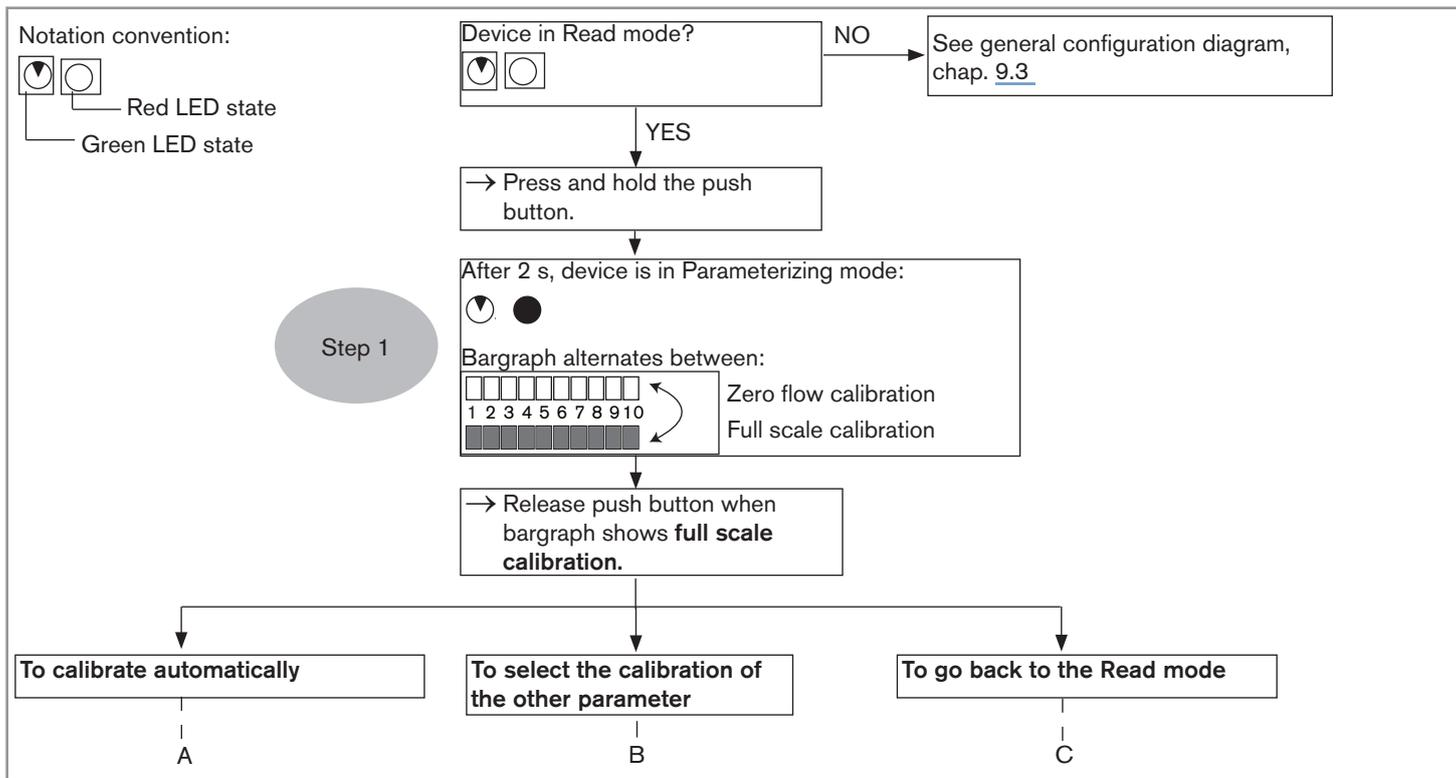
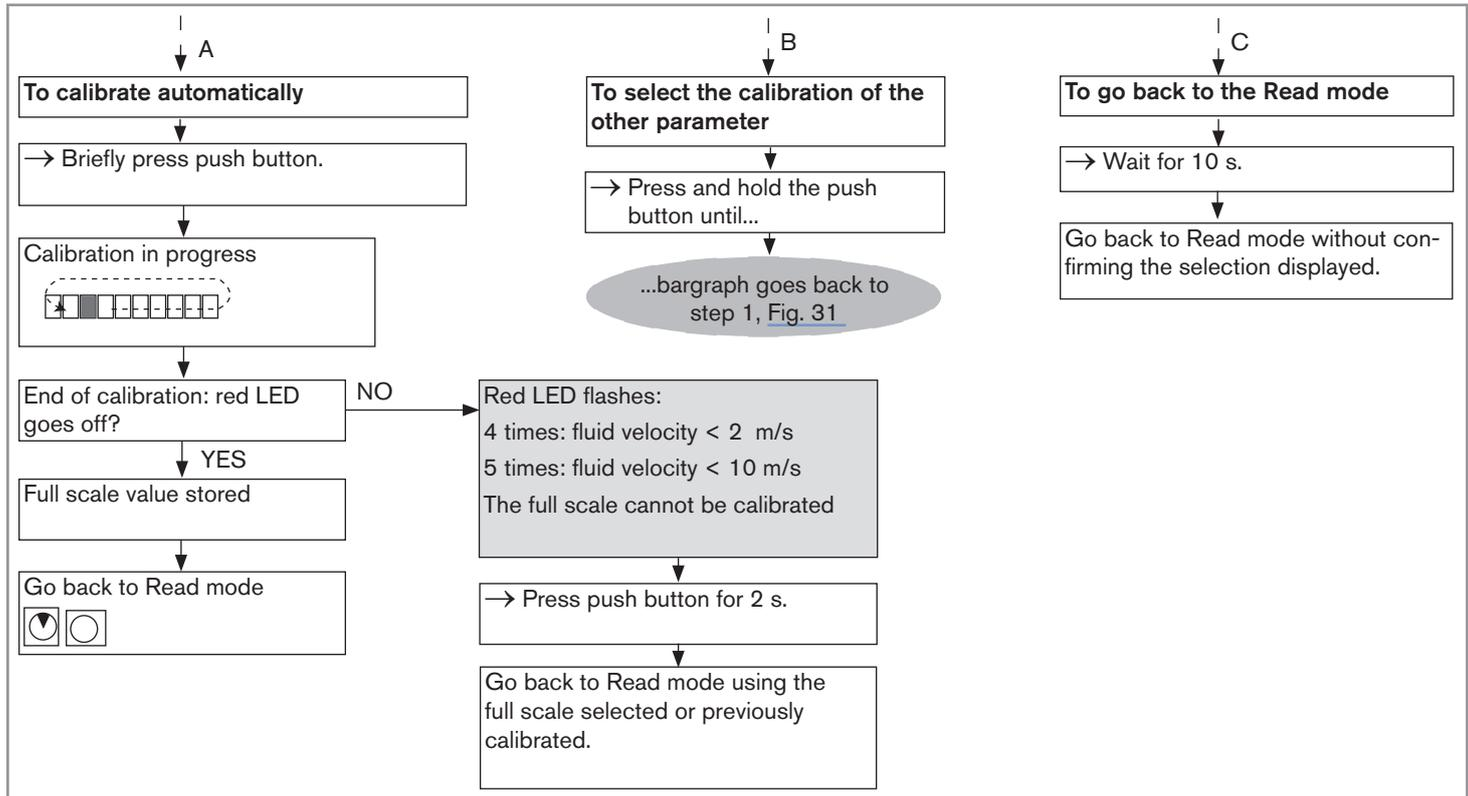

Fig. 31 : Calibration of the full scale, part 1
Fig. 32 : Calibration of the full scale, part 2
- Calibrate the full scale, see Fig. 31 and Fig. 32.